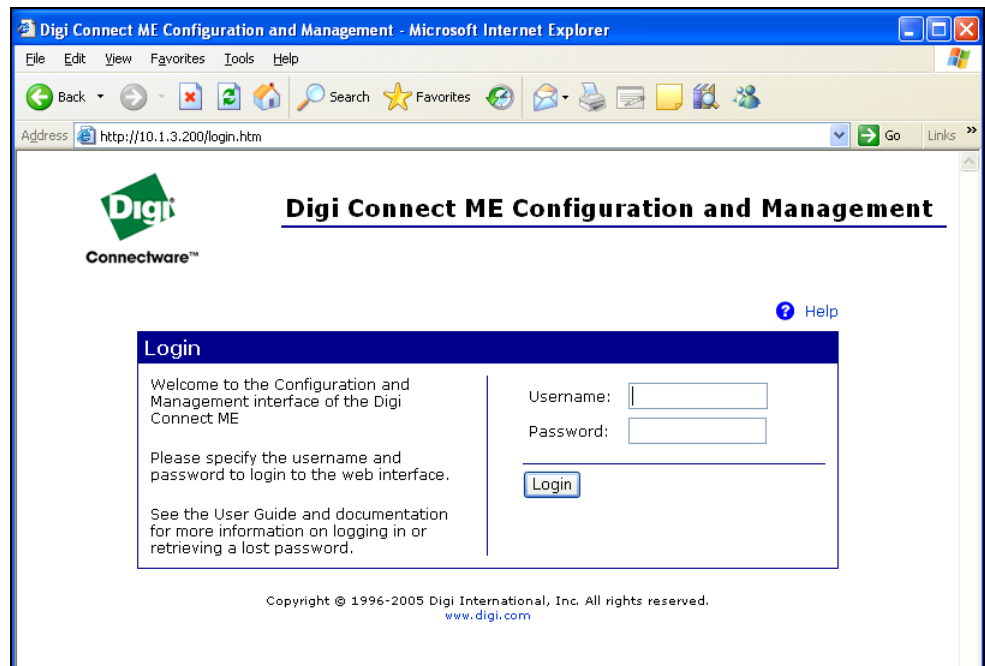

Figure 7-3
6. If the CPC is in the same subnet as the computer, start the device discovery program **Discovery.exe** and click on **Open web interface**. The username and password are "**tsicpc**" as shown below in Figure 7-3. If the CPC is not in the same subnet as the computer, type in the IP address in your web browser. Work with your network administrator to make sure the IP address is accessible from the network your computer is in.